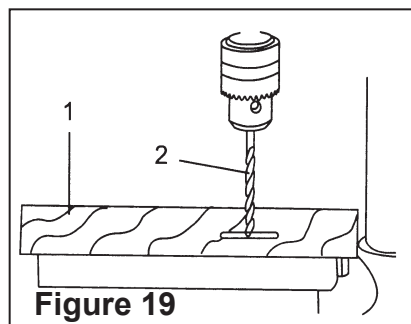

Figure 19
Workpiece method (Figure 19 and 20)
2. With the switch "OFF", bring the drill bit (2) down until the tip is even with the mark (Figure 19).